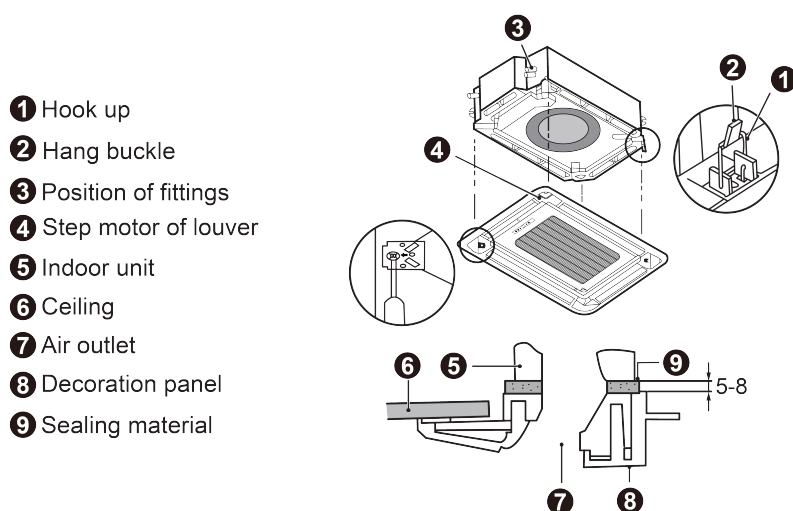

Fig.4.4.4
- (1) Detach the panel's Corner Cap, there is a mark "piping side" on one of the 4 corners, adjust the panel direction so as to keep the mark and fittings on the same corner.
- (2) Temporarily hang the panel to body (there are four hangers on each corner of the panel, hang the hangers to corresponding hooks on the body), as shown in Fig.4.4.4.
- (3) Detach the air inlet grille from panel, make a wiring connection of signal receiver. Notice that the connection wire not stuck in the middle of body and panel, or may cause air leakage and lead to condensation water drop.
- (4) Tighten 4 screws at each corner of panel respectively, fix the panel on the body firmly.
- (5) After tightening screws, reinstall the air inlet grille.